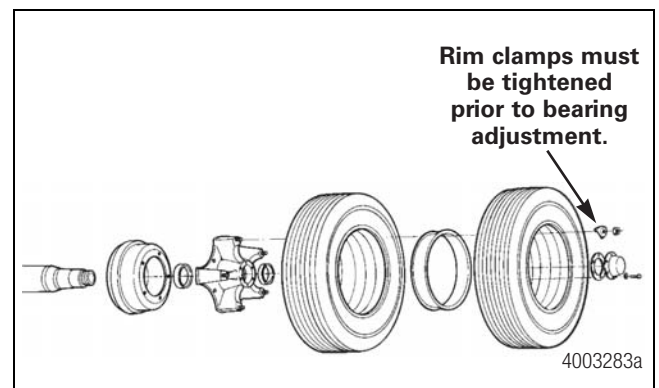

Figure 10.2
- When installing spoke wheels onto Meritor trailer axles, Meritor requires that the wheel rim clamps be tightened prior to adjusting wheel bearings. This helps eliminate excessive bearing and spindle stresses resulting from wheel clamping pressures. Figure 10.2.